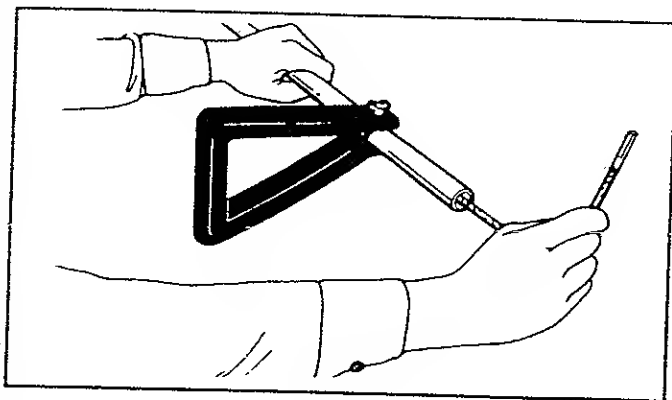

Figure 29
2. Remove the Flexible Drive Shaft from the Drive Shaft Housing as shown in Figure 29.